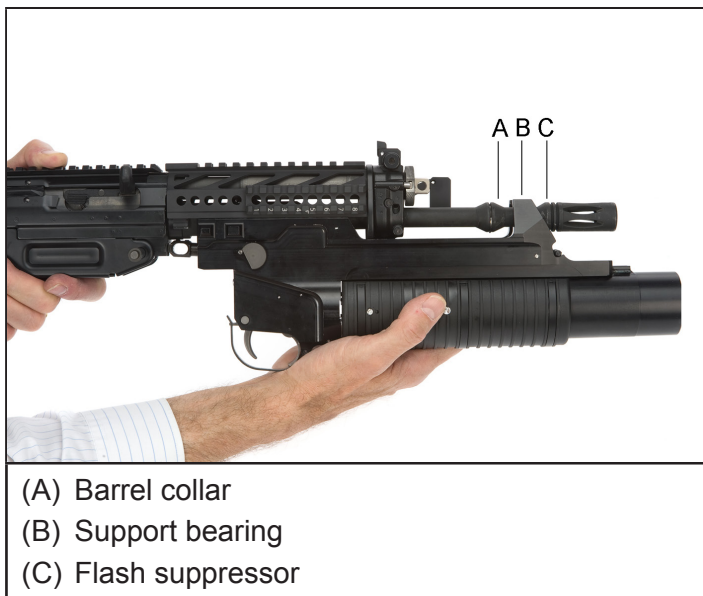

Figure 7: Draw back the GL 5340
- Put the GL 5340 with the support bearing B, at the position between collar A and the flash suppressor C, from the bottom up to the barrel of the SG 552 LB / SG 553 LB / Stgw 04/07 (see Fig. 7)